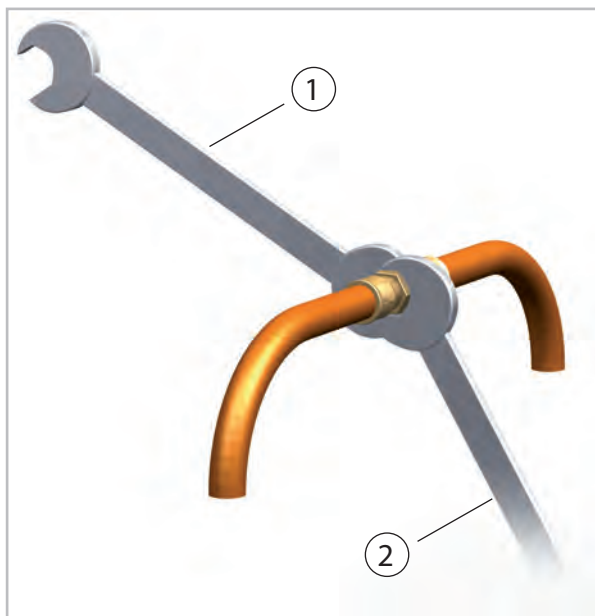

Fig. 36: Tightening the fitting
11. ➤ Then tighten the fittings with 2 appropriately-sized open-ended spanners. Use one spanner to counter the force when tightening the fitting (Fig. 36).